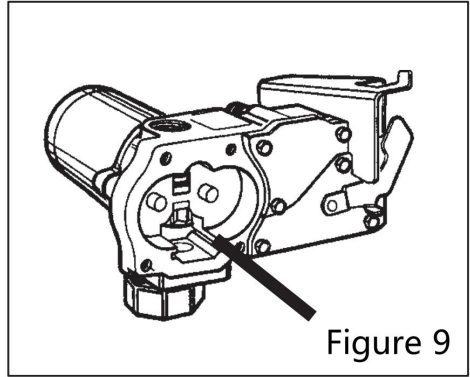

Figure 9
- Using a clean cloth, rotate the poppet and clean it. To check the sealing surface of the poppet valve to see if there is any damage. If so, please replace it immediately. (Figure 9)